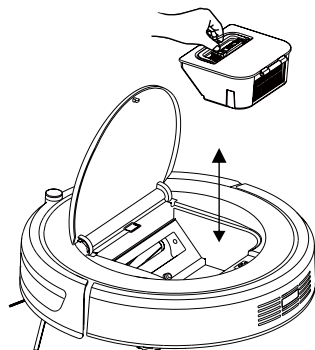

Fig.2
2. Take out the dust bin (Fig. 2).